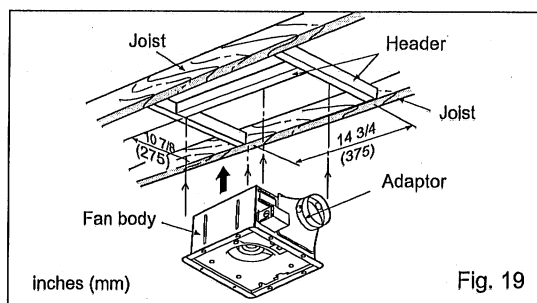
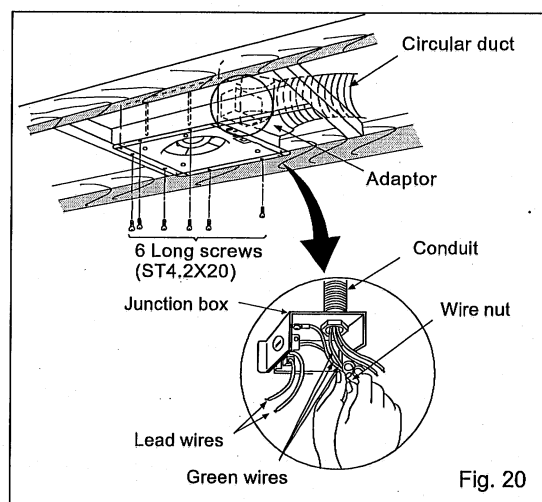

Fig. 19
Fig. 20
3. Install the fan body and secure it by using long screws (ST4.2X20) (Fig. 19, Fig. 20)